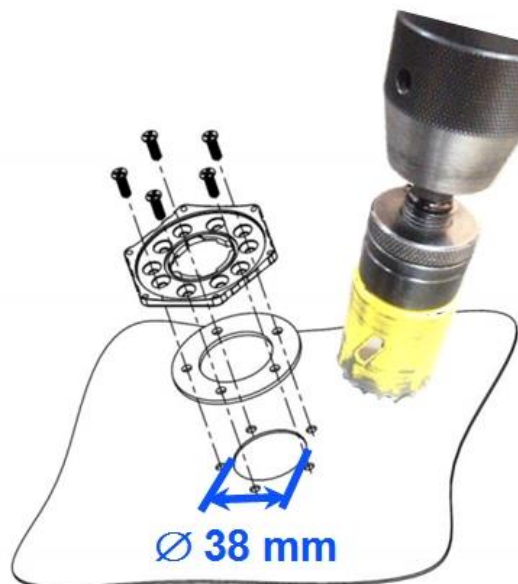

Fig. 8. Drilled hole for sensor installation
- 1) Drill a hole in a container with a 38 mm drill bit (Fig. 8).